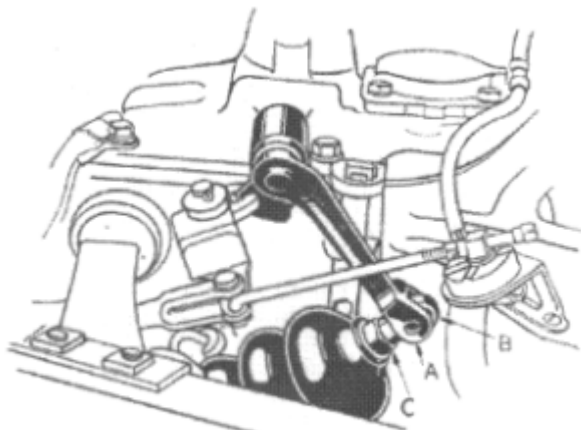

Figure 3
The power cylinder piston rod (B) (Figure 3) should enter the fork (A) in the shifting lever easily when the transmission is in either its forward (high) or rearward (second) position. The power unit should also have sufficient clearance to prevent striking the frame X member. Maximum clearance is obtained by pushing upward on the unit while tightening the nuts on the studs which hold the mounting bracket to the transmission.